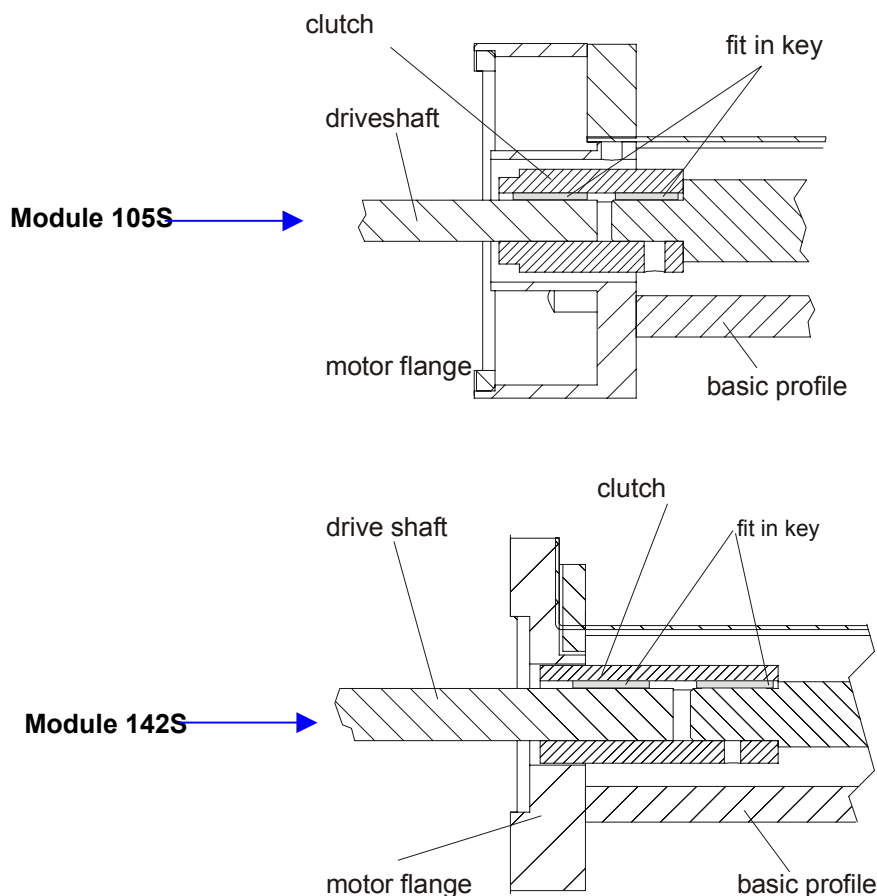
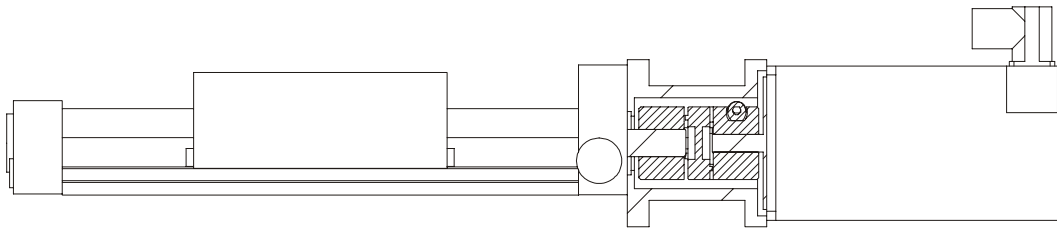

Figure 31: Sectional View (Clutch), Variation 1
Figure 32: sectional view (clutch), design 2
- Push the carriage toward the motor flange, the spindle and the clutch come out of the basic body (see Figure 31).
- Put the clutch of the faulty spindle onto the new spindle (see *Figure 31, page 38* and *Figure 32, page 39*).